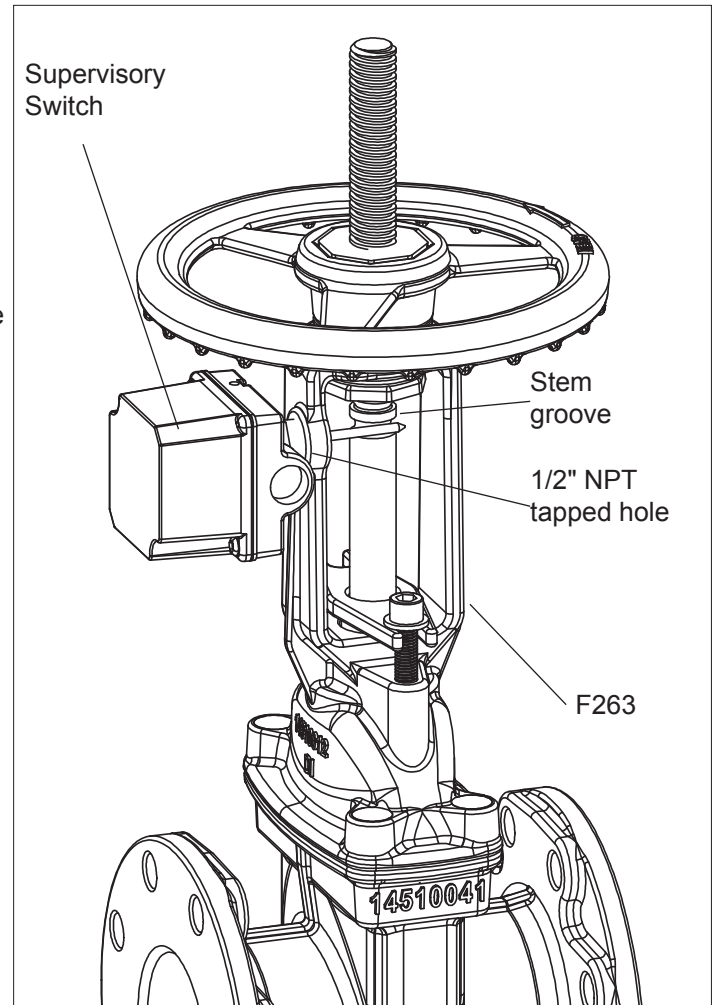

Fig. 8A
SUPERVISORY SWITCH INSTALLATION (Fig.8A)
1. AVK Series 145 OS&Y valves have a pre-tapped, 1/2" NPT threaded hole in the Yoke/Bonnet (F263), for mounting a Supervisory Switch. (See Fig. 8A)